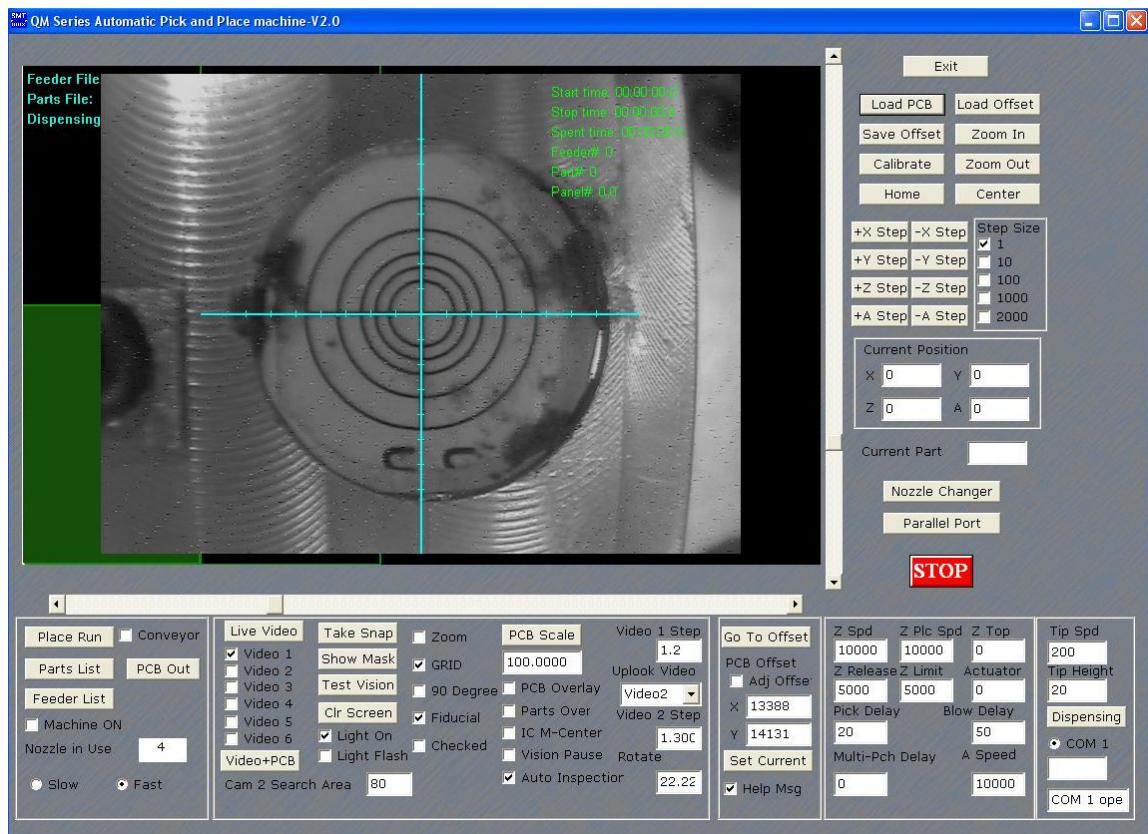

Figure 2.1: MAIN WINDOW crosshairs centered on the middle of the CALIBRATION ROD
4. Under the NAVIGATION PANEL, you should see X and Y adjustment buttons labeled +X STEP, -X STEP, +Y STEP, and -Y STEP. The (+) and (-) are directions relative to H1. Use the buttons to move the machine head until the crosshair shown in the MAIN WINDOW is centered on the CALIBRATION ROD, as shown in Figure 2.1.